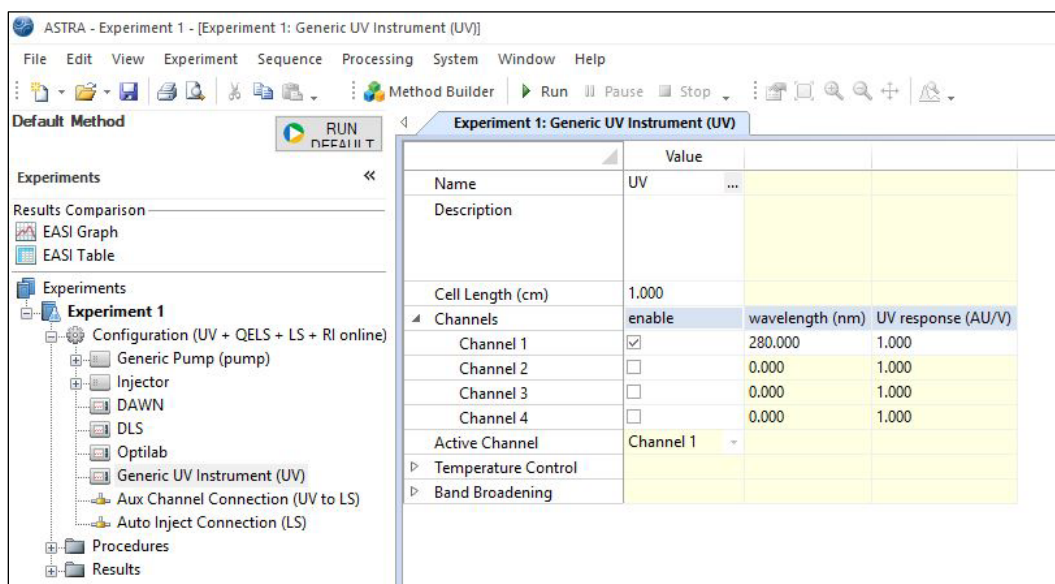

Figure 7. A screenshot of ASTRA software with the **Configuration** node expanded and **Generic UV Instrument** selected.
2. In **Configuration**, select **Generic UV Instrument** to define the parameters of the instrument that has been connected (see Figure 7).